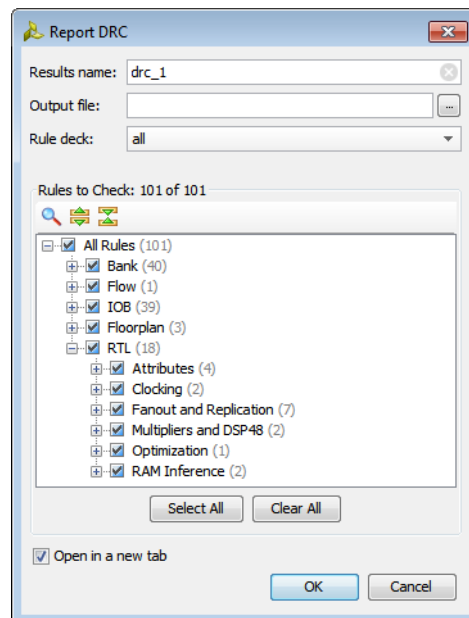

Figure 4-3: Report DRC Dialog Box
2. In the Report DRC dialog box (Figure 4-3), select the required rules, and click **OK**.